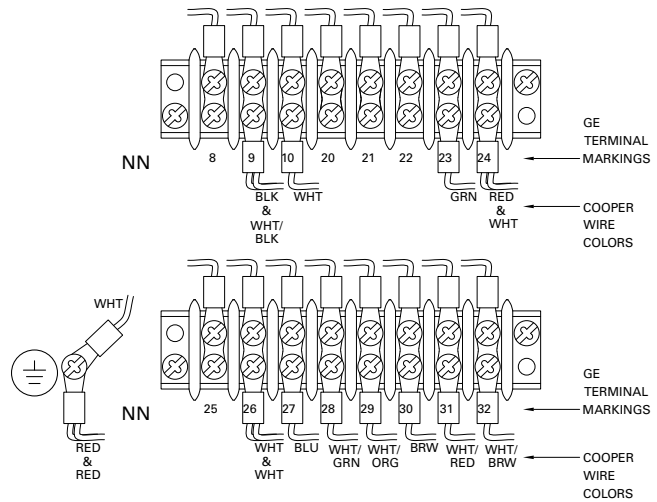

Figure 33. Connections to General Electric terminal board –wired for use with source-side PT
- Review the General Electric nameplate to determine correct overall Potential Transformer (PT) ratio entered at FC 44 on control.
- If a source-side PT will be used, move the white/brown wire from terminal 9 and place it on terminal 32 as shown in **Figure 33**. If this is not done, the control will use a calculation to determine the source-side voltage. If utilizing a source-side PT, make sure to enter the Internal PT Ratio into the control at FC 44!. Also, when using a source-side PT, the Vin PT Configuration (FC 146) must be set for Vin Mode.